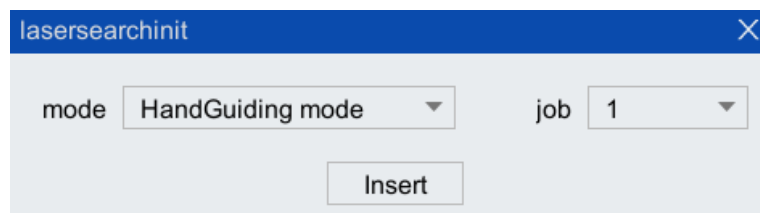

Figure 8-26 Laser search initialization parameter configuration
Step1. Click [Insert cmd/Function Pack/weld/Welding command /Lasersearchinit] to enter the laser search initialization instruction interface. As shown in Figure 8-26. The parameter description is shown in Table 8-4.